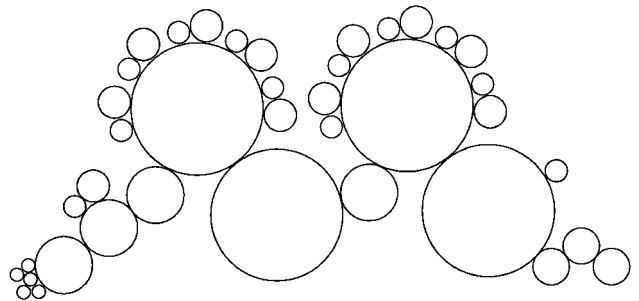

Figure 9. Lightweight Nonwovens Roller-Top Card
*The Lightweight Nonwovens Roller-Top Card.* Designed to process synthetics and synthetic blends, the lightweight nonwovens roller-top card uses a larger, slower lickerin that transfers fiber to the working surfaces (Figure 9). Workers and strippers incrementally comb and recirculate fibers above the cylinder. This type of card can be set up in tandem, providing gradual carding as the fiber is transferred from breaker through finisher cylinders. Cotton can be run on this card, but high maintenance costs and poor web uniformity make it less desirable for high-quality cotton processing.